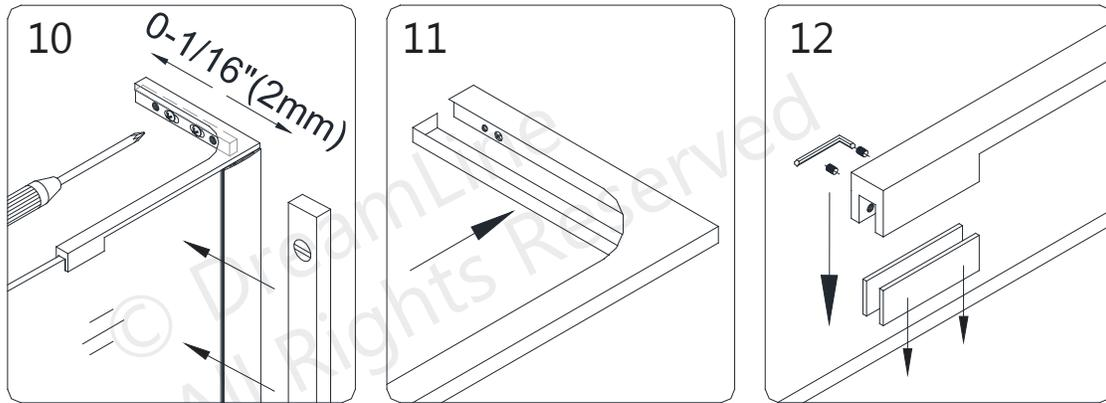

Fig 13
13. Adjust the **Stationary Panel Glass** to plumb if necessary and tighten the screws. Attach the **Decorative Cover (#4.4)** to the **L-Bar™ (#4.3)**. Firmly secure the **L-Bar™ (#4.3)** to the top of the **Panel Glass** using the clear gasket and rubber-tipped set screws. **(Fig 13)**